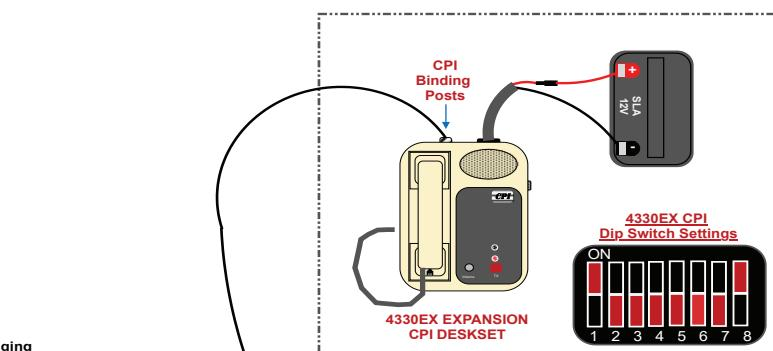

Figure 4: 4330EX
- Strip and attach the field wire to the binding post of the Expansion CPI desk set (not polarity dependent). (See Figure 4)